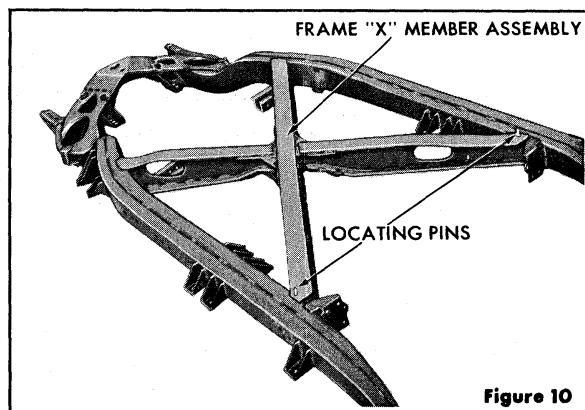

Figure 10
**OPERATION NO. 9:** With frame assembly in an inverted position, place the "I" beam frame "X" member assembly in frame. Locate "X" member to frame by inserting two locating pins through holes provided in rear of "X" member and into frame sub side member (Fig. 10). Using an electric welder, weld the overlap joints of the "X" member to the frame assembly. CAUTION: Since there are no locating pins used on front of "X" member, make sure front of "X" member is flush with frame sub side member prior to welding front overlap joints. Do not weld "X" member vertically at this time.